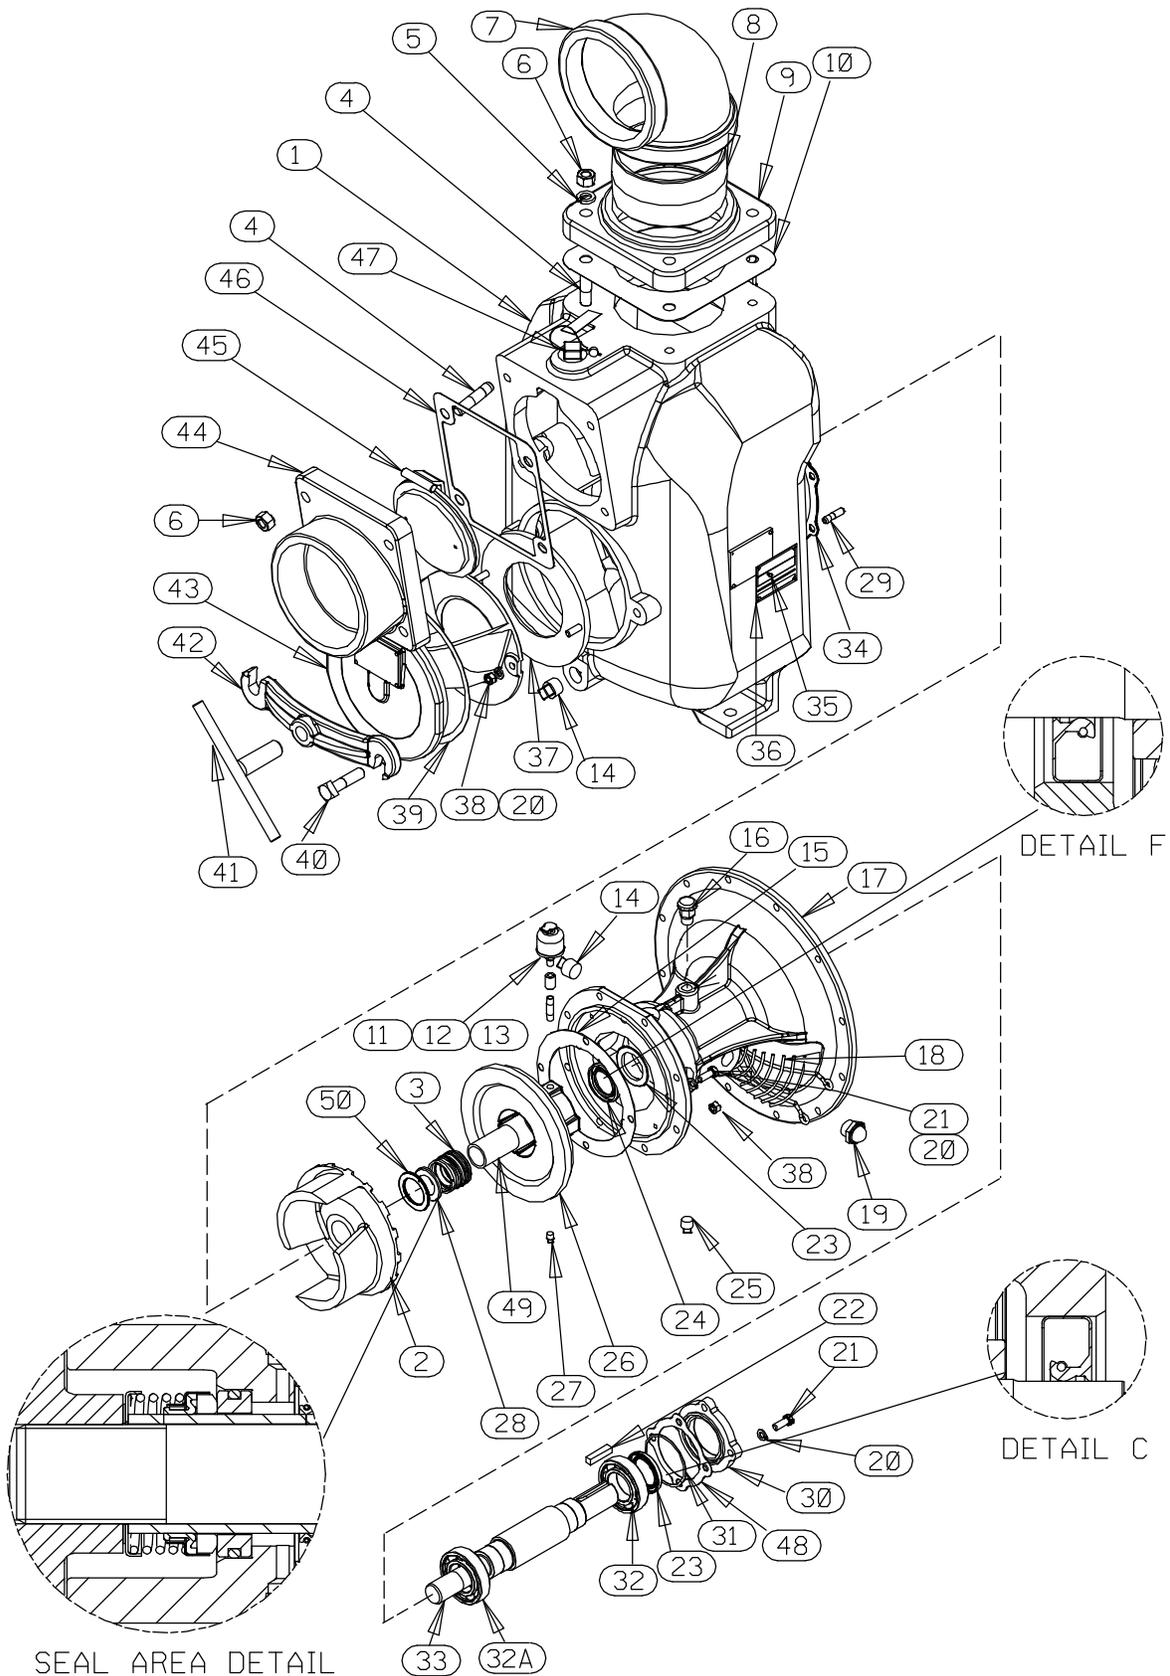

Figure 3. 16D60-(SAE 4/10) Pump End Assembly
(Figure 3)
Disengage the hardware (not shown) securing the drive flange to the engine bellhousing and remove the guards (18, Figure 3). Separate the pump end and drive assembly from the engine by pulling the pump end straight away from the engine.
Screw one of the setscrews into the puller hole on the circumference of the bushing. As the coupling and bushing separate, remove the bushing and slide the coupling off the shaft. Remove the shaft key (22, Figure 3).